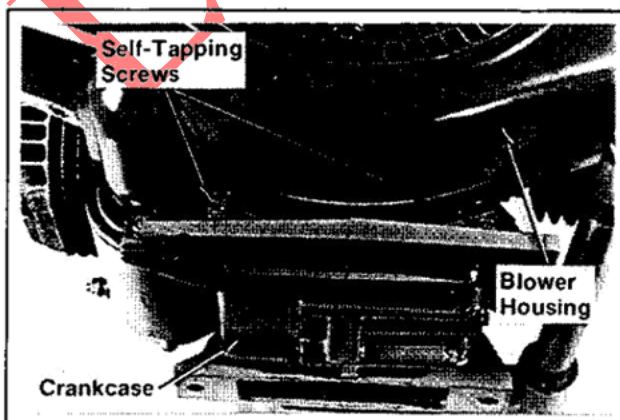

Figure 9-16. Removing Blower Housing.
4. Remove the self-tapping screws and blower housing from crankcase. Refer to Figure 9-16.